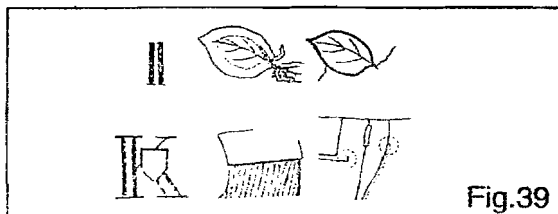

Fig.39
7.OTHER MODES OF PRACTICAL SEWING (Fig.39)